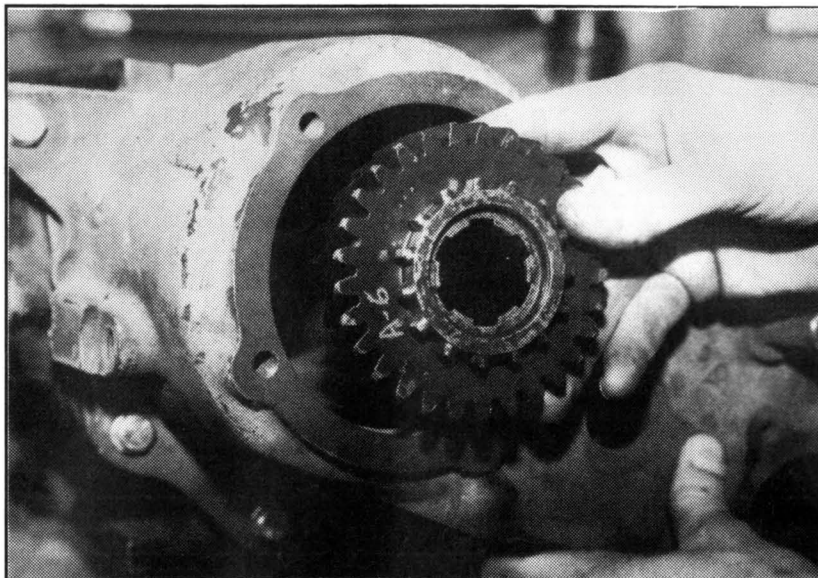

Fig 1- Remove Drive Gear
- STEP 2:** Clean transfer case and P.T.O. unit if installed. Remove cover plate or P.T.O. unit and clean all surfaces of gasket material and burrs. Remove main drive gear (**Fig 1**) and make sure the gear unit to be installed has the same number of teeth. Check the transmission main shaft for end play and intermediate gear and bearings for wear. Replace them if necessary. Clean any foreign material from face of main bearing. If installing a Model No. 915674, be certain that the spacer between the transmission bearing and the main drive gear is not removed. This spacer is only on T14 3-speed transmission.